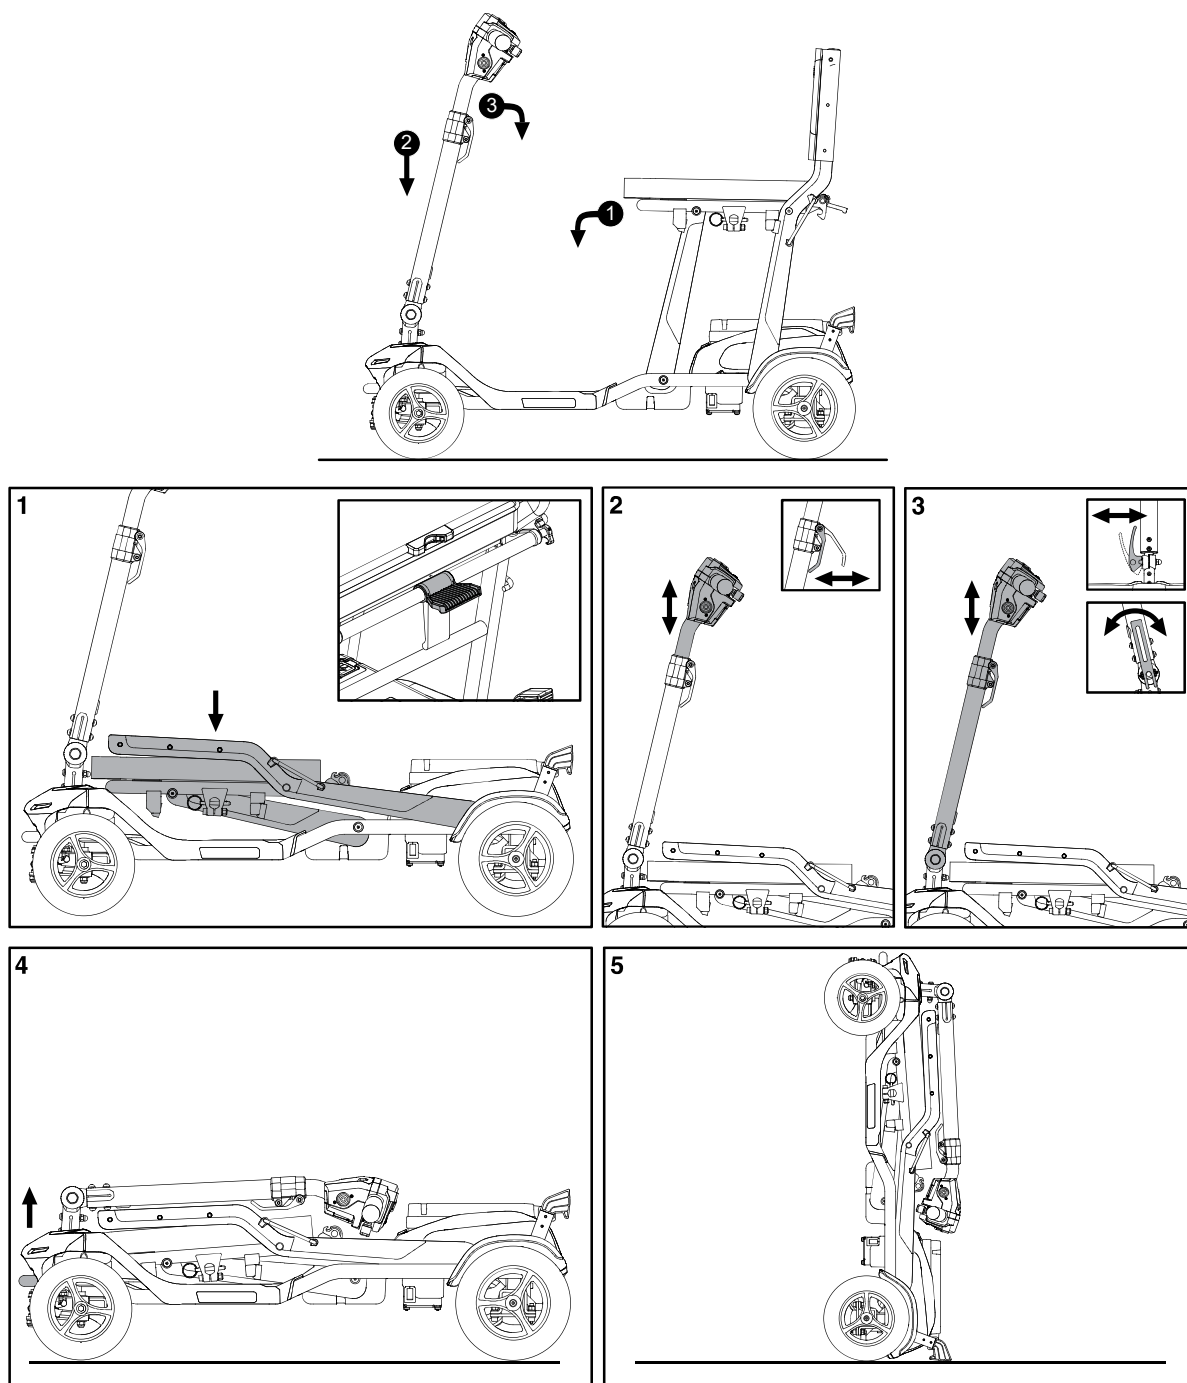

Figure 14. Folding for Transport
**To fold your scooter (see figure 14):**
**To unfold your scooter (see figure 14):**
1. Fold your scooter as shown in step 5 in **figure 14**. Refer to V. “Disassembly/Assembly and Folding/Unfolding” for more information.